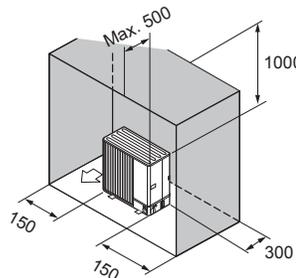

Fig. 2-14
- (6) Obstructions or closed surfaces at rear, sides, and above only (Fig. 2-14)